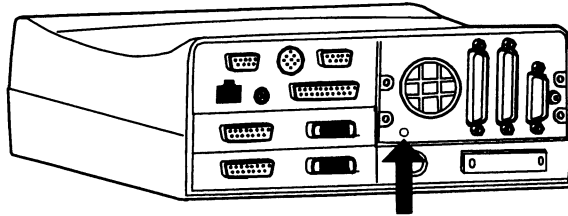

Figure 13 Service reset button
1. Make sure that the power is turned off the Monitor and unplug the power cord. Press and hold the service reset button on the rear panel of the F-CPU for at least five seconds or until an audible tone is heard (see Figure 13).